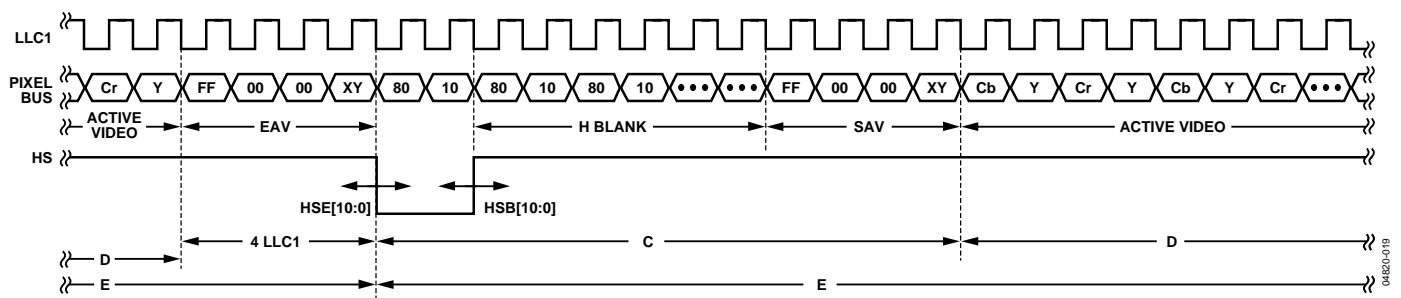

Figure 19. HS Timing
The position of this edge is controlled by placing a binary number into HSB[10:0]. The number applied offsets the edge with respect to an internal counter that is reset to 0 immediately after EAV code FF,00,00,XY (see Figure 19). HSB is set to 00000000010b, which is 2 LLC1 clock cycles from count[0].
**Table 99. HS Timing Parameters (see Figure 19)**
The position of this edge is controlled by placing a binary number into HSE[10:0]. The number applied offsets the edge with respect to an internal counter that is reset to 0 immediately after EAV code FF,00,00,XY (see Figure 19). HSE is set to 00000000000b, which is 0 LLC1 clock cycles from count[0].